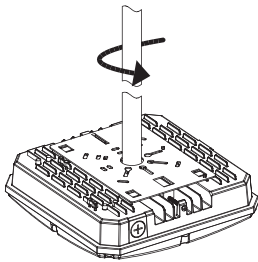

Figure 2
- Screw-in the threaded end of the NPT pipe to the canopy fixture's thread, ensure that the installation is secure and installation is complete (Figure 2).